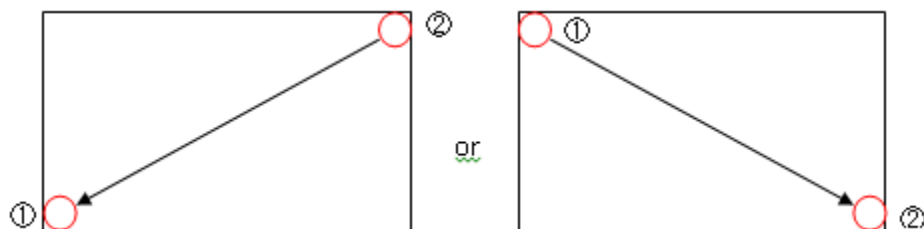

Figure 2: Bringing Up the System Menu
2. Access the SYSTEM MENU by touching the corners of the touch screen as shown in Figure 2.